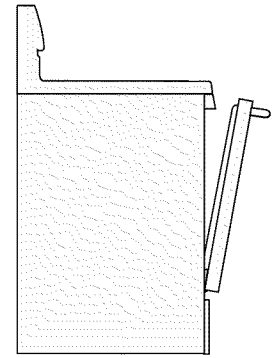

Fig. 3
6. **Leave oven door open** at broil stop position (Fig. 3).